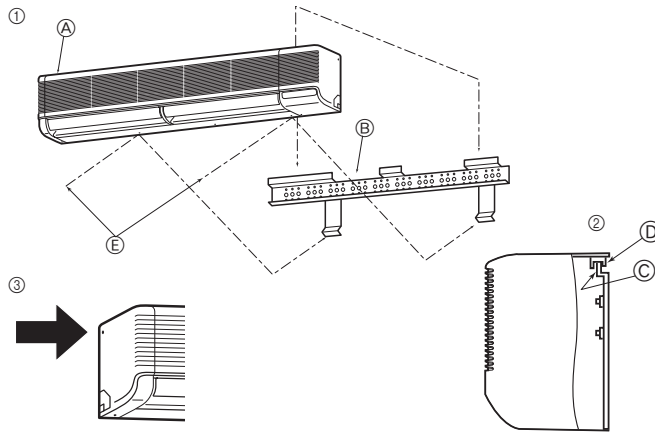

Fig. 3-11
3.4. Mounting the indoor unit (Fig. 3-11)